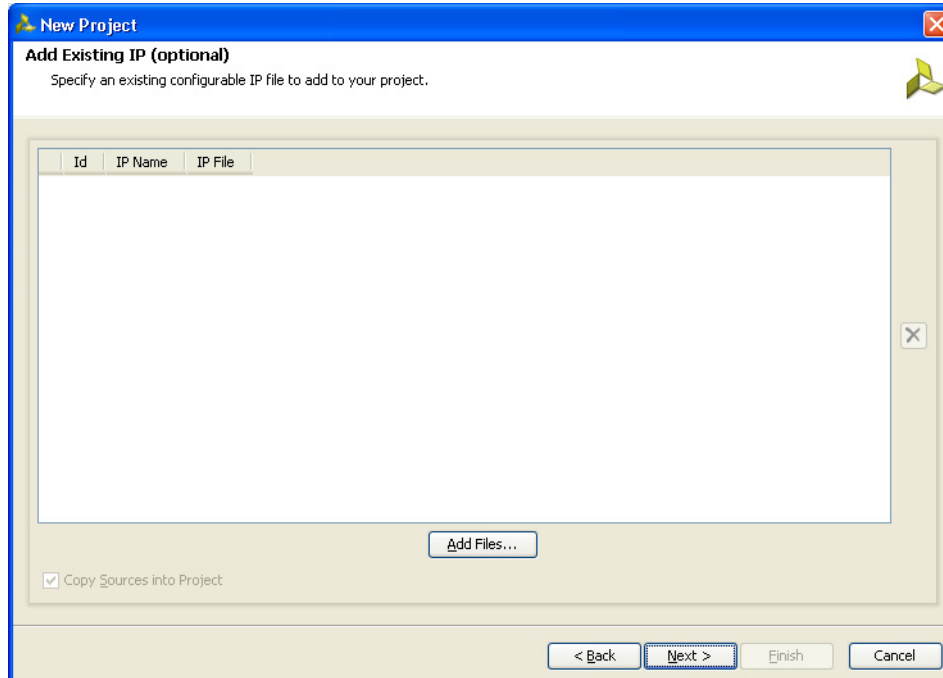

Figure 1-6: **Add Existing IP (Optional)**
6. Click **Next** to open the Add Existing IP (Optional) page (Figure 1-6). If the IP is already created, the XCI file generated by the IP can be added to the project and the previous created IP files are automatically added to the project. If the IP was not created earlier, proceed to the next page.